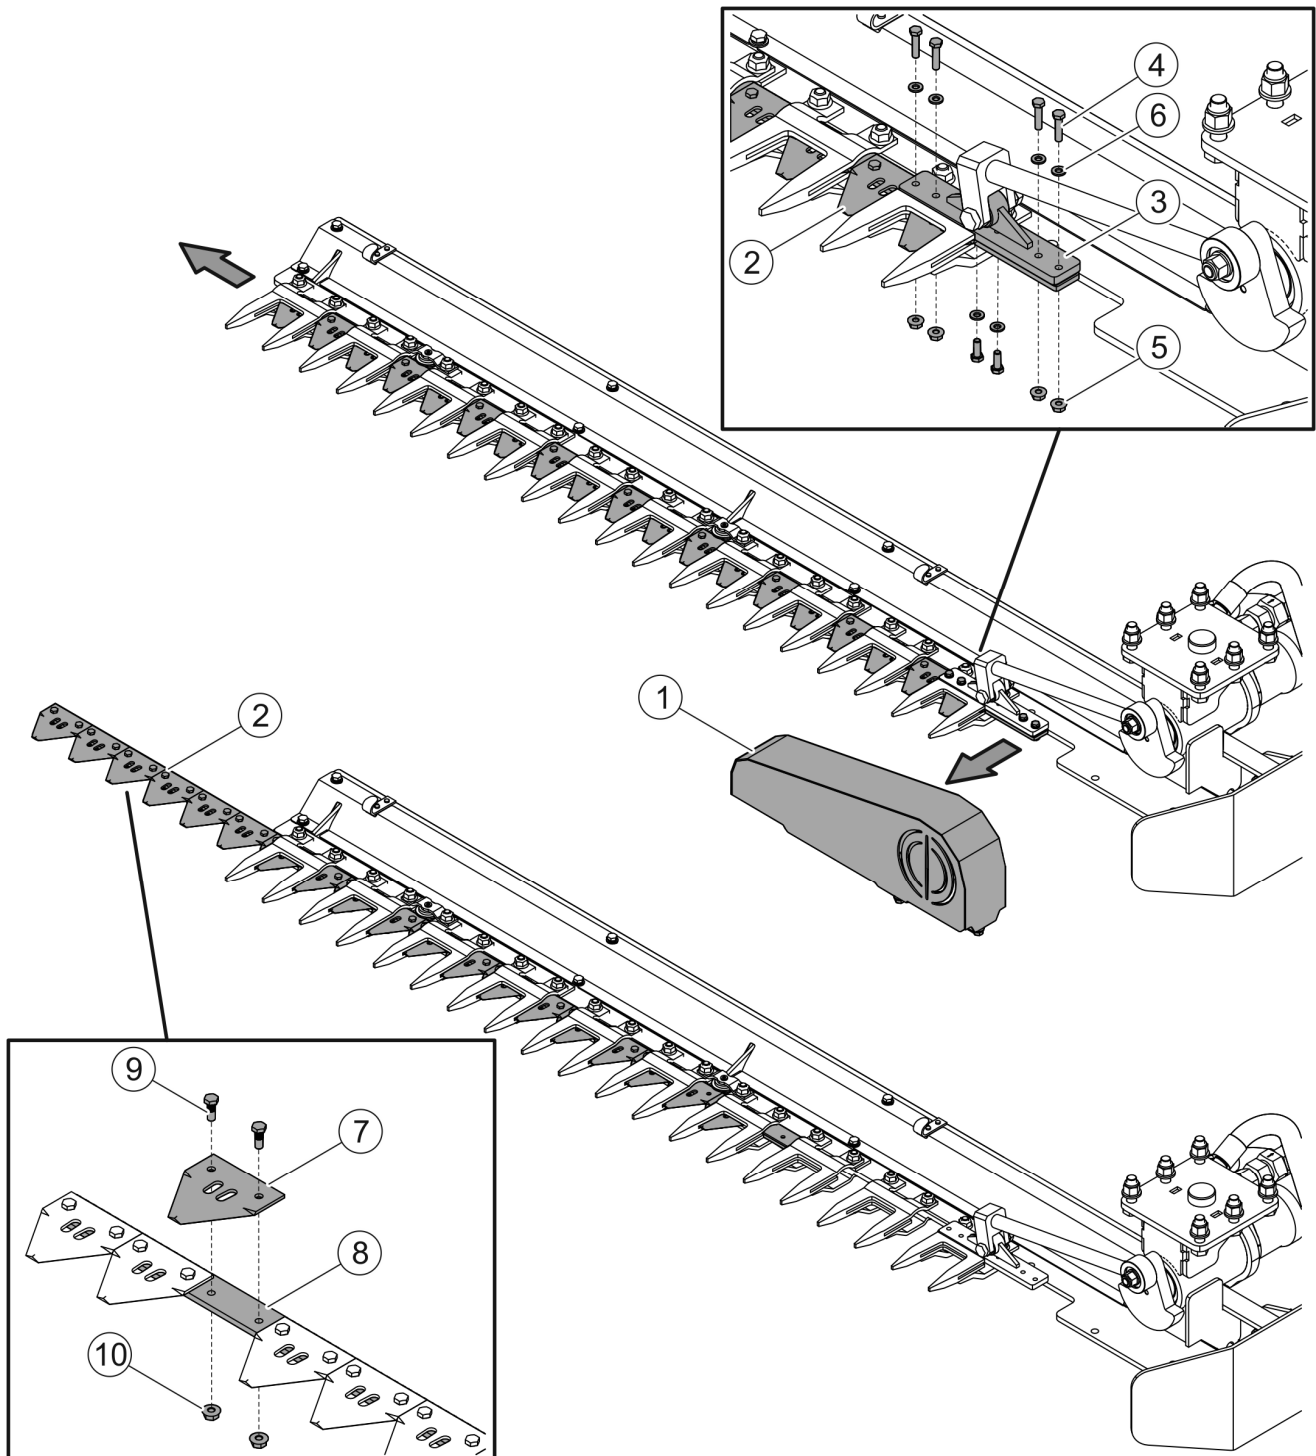

FIGURE 5.3 Replacement of trimming blades.
In order to replace the blade (7) proceed as follows (FIGURE 5.3):
- dismantle the drive system guard (1) by unscrewing three bolts;
- unscrew the bolts (4) that fix the cutter bar (2) to the crank holder (3);
- slide the cutter bar (2) from the guides;
- dismantle a damaged blade (7) by unscrewing two bolts (9) that fix the blade to the cutter bar (8)
- attach a new blade (7) to the cutter bar (8) with bolts (9), tighten the bolts using the tightening torque of 18 Nm;
- slide the cutter bar (2) with replaced blades (7) into the guides and attach it to the crank holder (3) ;
- to attach the cutter bar (2) to the crank holder (3), tighten the fixing bolts (4) using the tightening torque of 18 Nm.
- mount the drive system guard (1).